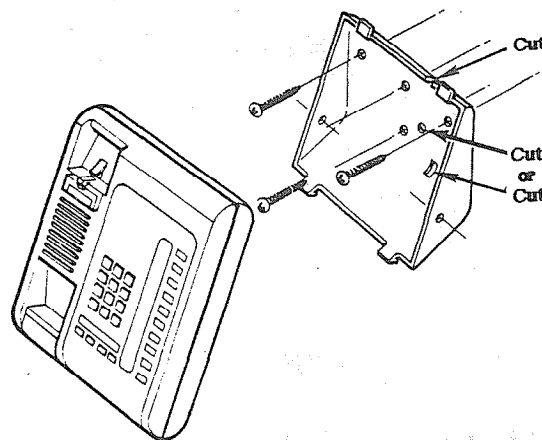
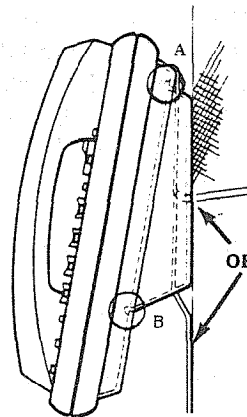

FIGURE 19
FIGURE 20
08.14 Locking tabs secure the base to the EKT. The direction in which the base is attached to the EKT determines whether it will be used as a desk unit or wall unit (it is factory-configured as a desk unit). Disengage the locking tabs (A & B, Figure 20) by pushing downward on the base. Refer to Figure 19, choose which of the two lower choices is appropriate, and cut the holes through which the tail cord will be routed.
08.16 Route the tail cord through the holes in the base and secure the EKT (Figure 20). Test the sturdiness of the EKT mounting.